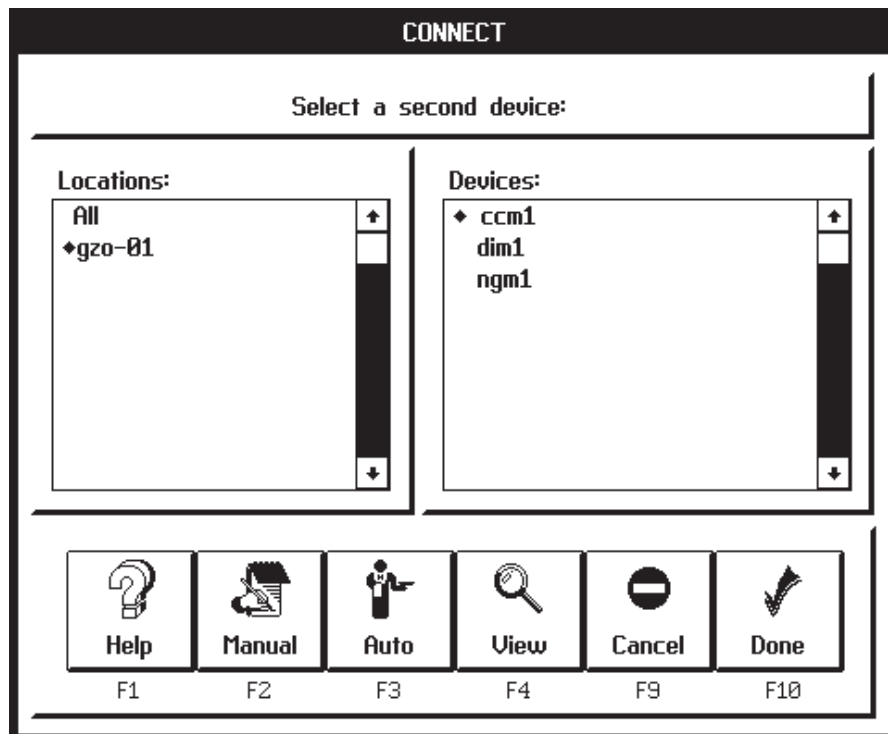

FIGURE 3-11. CONNECT SCREEN
4. Click on the Connect (F8) action button. The CONNECT screen appears (Figure 3-11).
From the CONNECT screen (Figure 3-11), you can use action buttons to get information about inputs and outputs, and their connections.